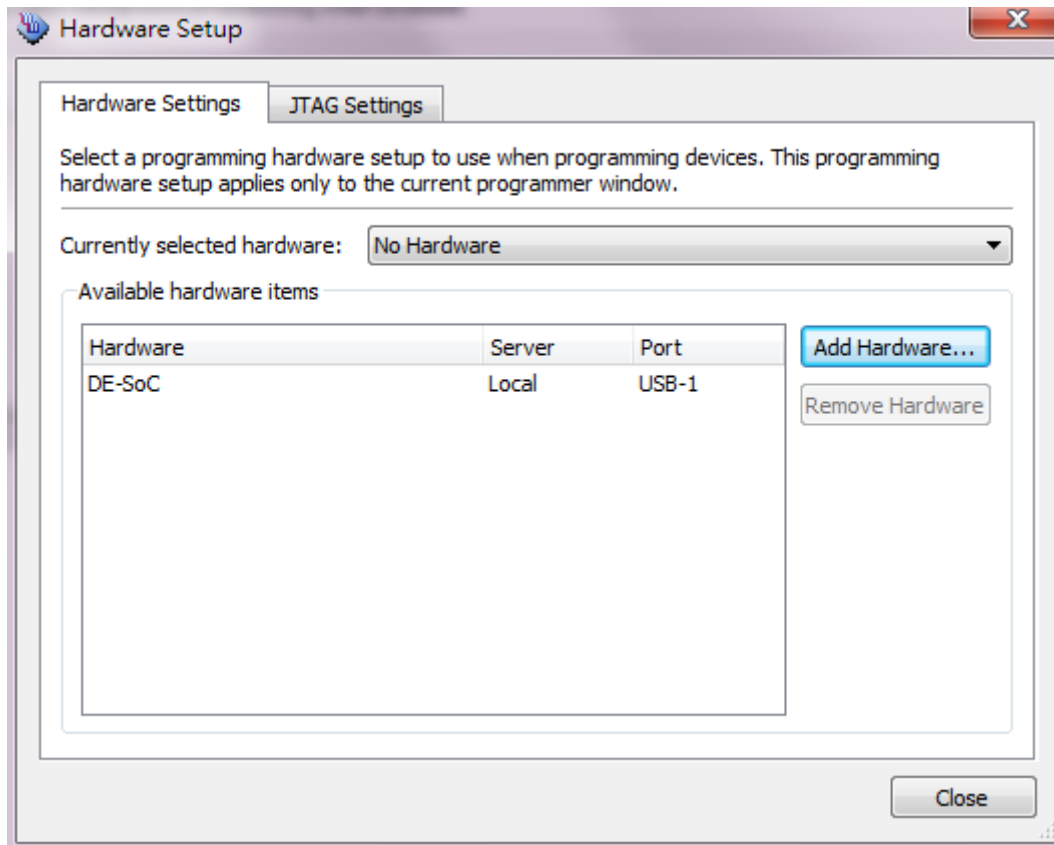

Figure 4-4 Hardware Setting
3. If it is not already turned on, turn on the DE0-Nano-SoC [USB-1] option under currently selected hardware. See **Figure 4-4**.